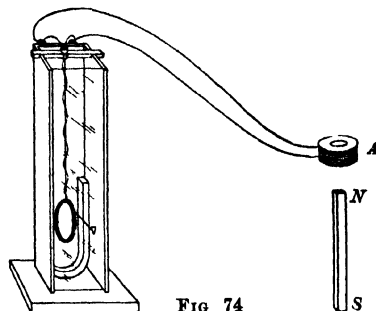

FIG 74
**I. Induction of currents by magnets.** (a) Set up the D'Arsonval galvanometer (Fig. 74) and insert in the place provided for it a slender wire or broom-corn pointer in the manner shown in the figure. Short-circuit a simple cell by means of a few feet of copper wire; then to the galvanometer terminals touch wires which are connected to the cell and note the direction of deflection. (The object of the short-circuiting is to prevent a too violent throw of the coil.) Record the terminal (right or left) of the galvanometer at which the current entered it when the deflection was in a given direction (right or left). This will enable you henceforth to know at which terminal any current enters your galvanometer, as soon as you observe the direction of deflection. Connect to the galvanometer a 600- or 700-turn coil *A* of No 27 copper wire. Take particular pains to scrape the ends of all wires which are to be joined, and to twist the scraped ends firmly together.